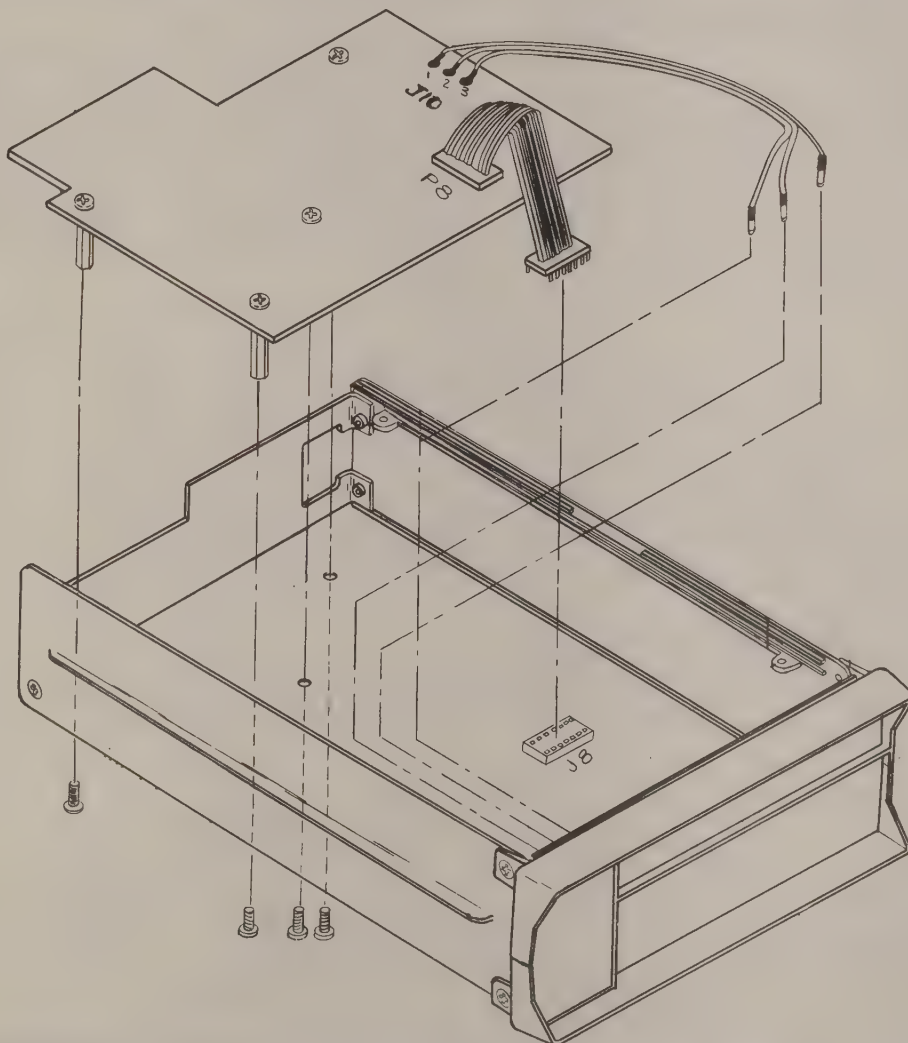

Figure 602-2. D.O.U. Installation Diagram
3. Position the DOU down on the main pcb in the manner shown in Figure 602-2 so that the stand-offs align with the matching holes in the Main pcb.